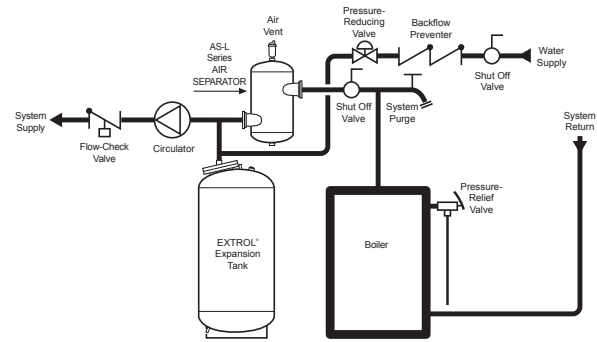

Figure 1. AS-L Series
1. Refer to Figures 1 and 2 for the proper installation of the AMTROL AS or AS-L series separator.